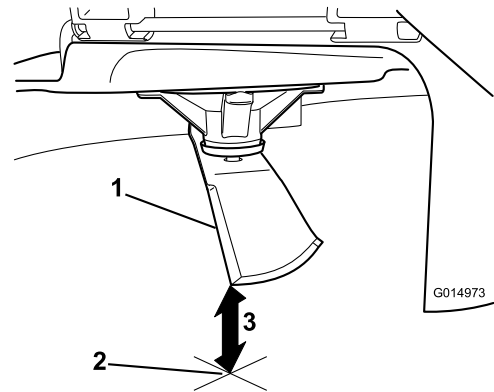

Figure 73
5. Measure from the tip of the blade to the flat surface (Figure 73).